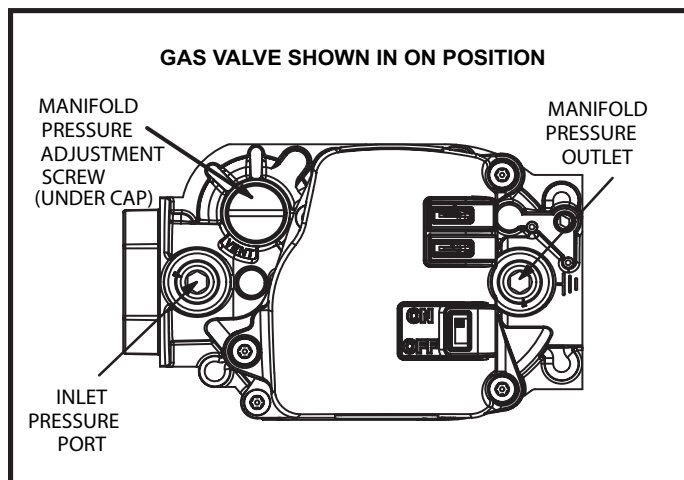

Figure 57
## Gas Valve Operation (Figure 57)
6. Move gas valve switch to **OFF**. See Figure 57.
8. Move gas valve switch to **ON**. See Figure 57.